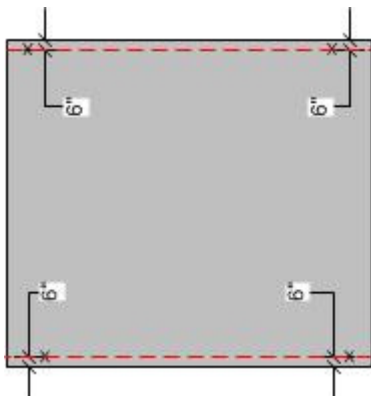

Fig.2
- Snap a chalk line from edge to edge making sure the chalk lines crosses the center of your marks. We have found that red chalk works the best for showing lines on concrete (Fig. 2).